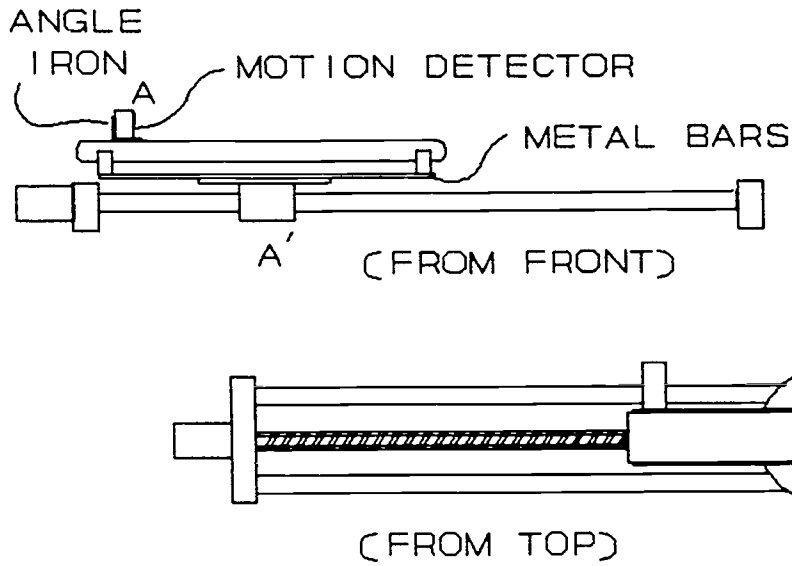

Figure S-5-1
slide (see Figure S-5-1, "Slide and Conveyor")
on conveyor belt (see Figure S-5-1)
3. Start with the motion detector at point A' of the slide and at point A of the conveyor (see Figure S-5-1, record this as position 1, using the Teach Menu of the Scorbot program).